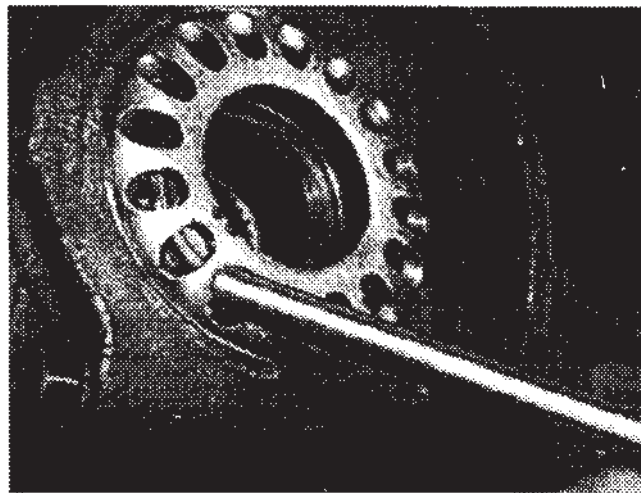

Figure 15
6. Hold the other adjuster so that the mark is in the same relative position as the other one (with the mark away from the carrier) and slide it down the bearing race into the threads. As it meshes, it should shift outward a little and be positioned slightly away from the race (adjuster shown in **Figure 15**).